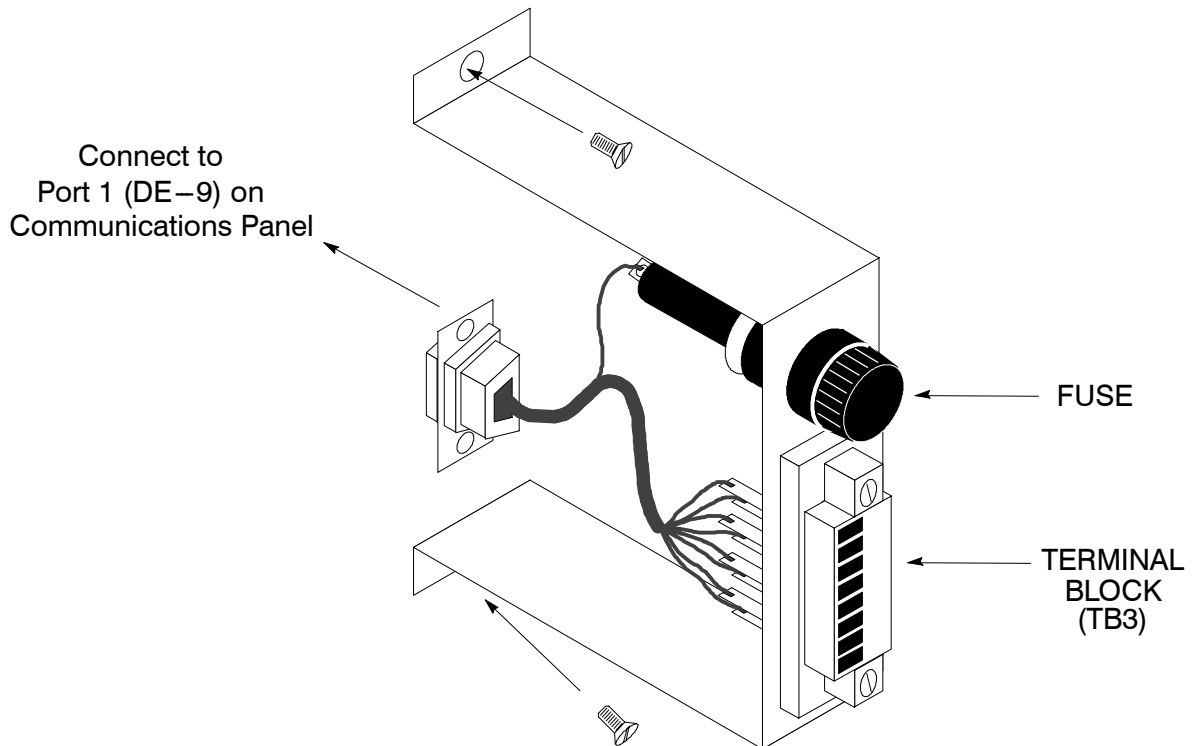
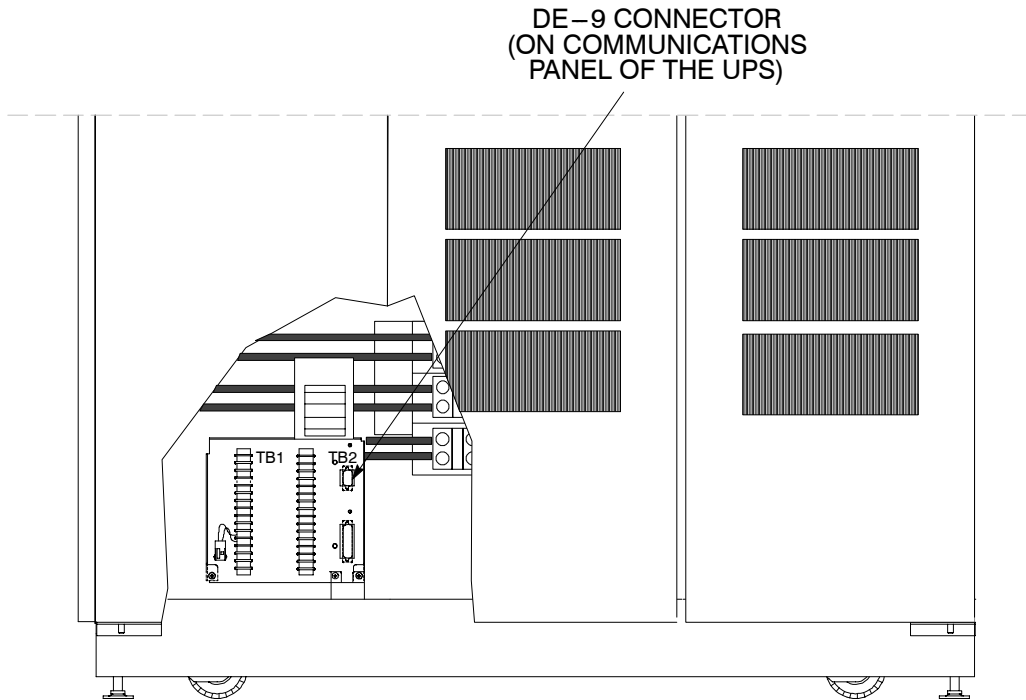

Figure 21. Terminal Block Bracket
Figure 22. Wiring an RMP to the UPS
3. In the spare parts kit, locate the RMP adapter cable assembly (see Figure 21). Mate the DE-9 connector on the back of the terminal block into the DE-9 connector on the Communications Panel of the UPS (see Figure 22). Use two screws from the spare parts kit to secure the terminal block bracket to the Communications Panel.